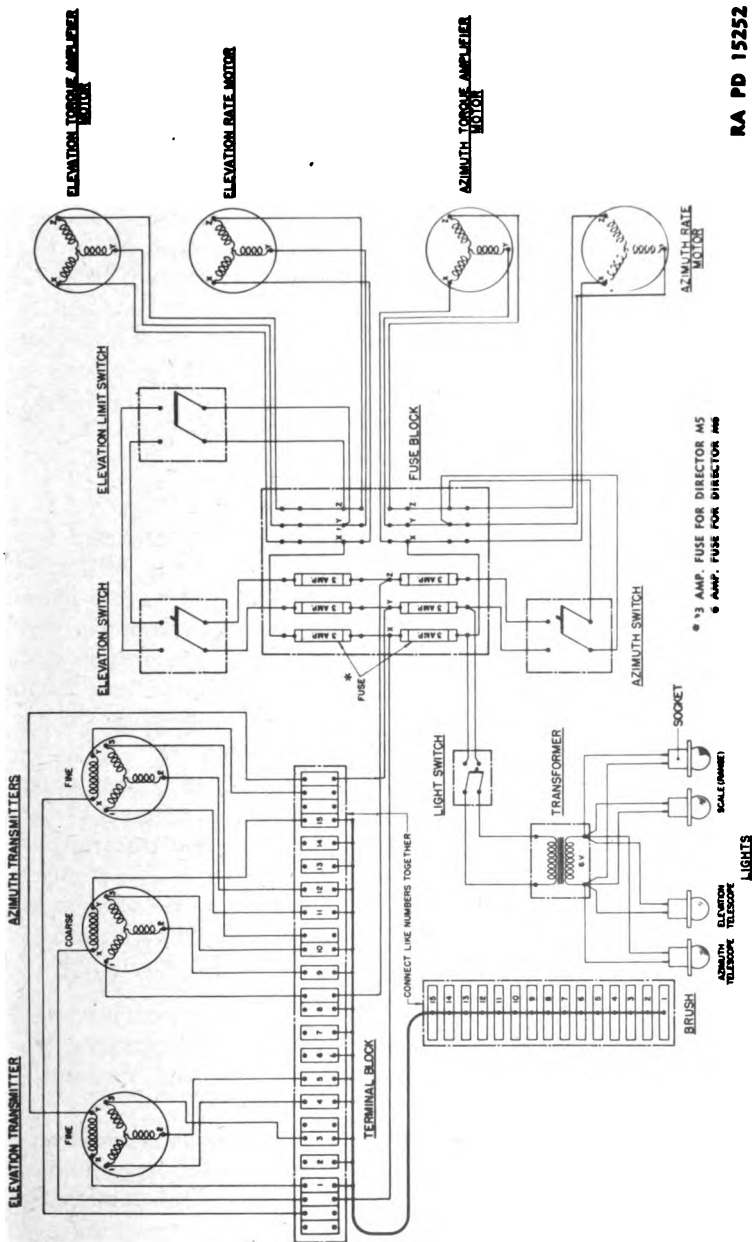

Figure 51 — Wiring Diagram for Directors M5 and M6, Old Type
wiring. Earlier Directors M5 and M6 also had a fuse block which was mounted on the bracket of the elevation variable-speed mechanism. The wiring diagrams in figures 51, 52, and 53 will identify which type of wiring is used in a particular director.
g. Fuses in the earlier directors protect all three phases of both azimuth and elevation power supply, as shown in wiring diagram figure 51. The lighting transformer is also supplied through the fuses for phases X and Y on the azimuth side. Later directors do not have a fuse block. When no fuses are available for older directors, they may safely be shorted out in emergency, preferably retaining the good fuses in phases X and Y on the azimuth side because of the additional protection to the lighting transformer.